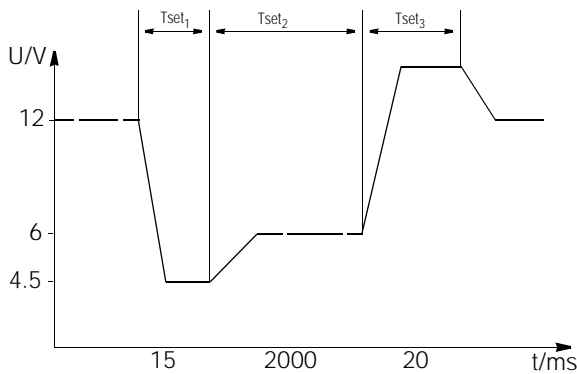

Figure 4.2.3 Path to SEq Parameter Settings
- Special dwell time (see also figure 4.2.3)